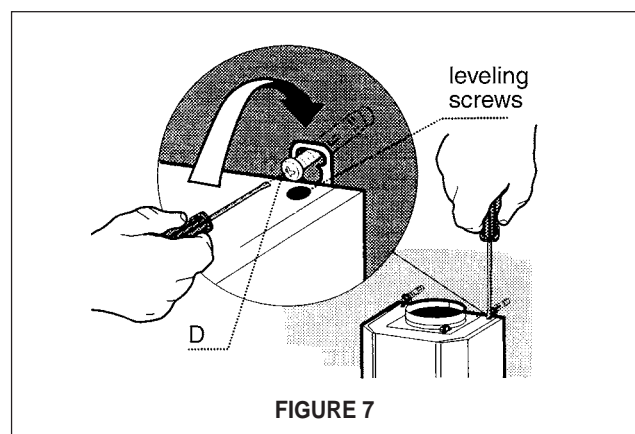

FIGURE 7
2. Before mounting the **CANOPY SECTION**, tighten the two leveling screws located near the **CANOPY SECTION** mounting points (as indicated in **FIGURE 7**).
3. Hook the body on to the **MOUNTING SCREWS (D in FIGURE 7)** and fully tighten the **MOUNTING SCREWS**.